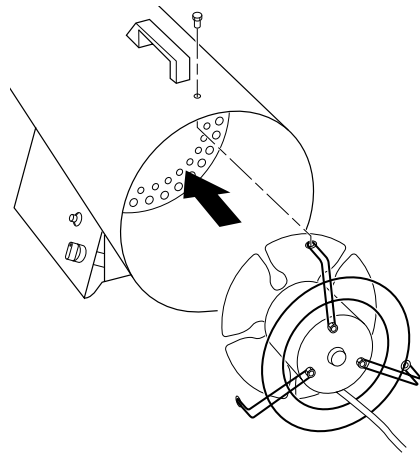

Figure 13 - Replacing Motor and Fan Guard into Heater
9. Place motor and fan guard into rear of heater shell. Make sure power cord is properly located (see Figure 13).